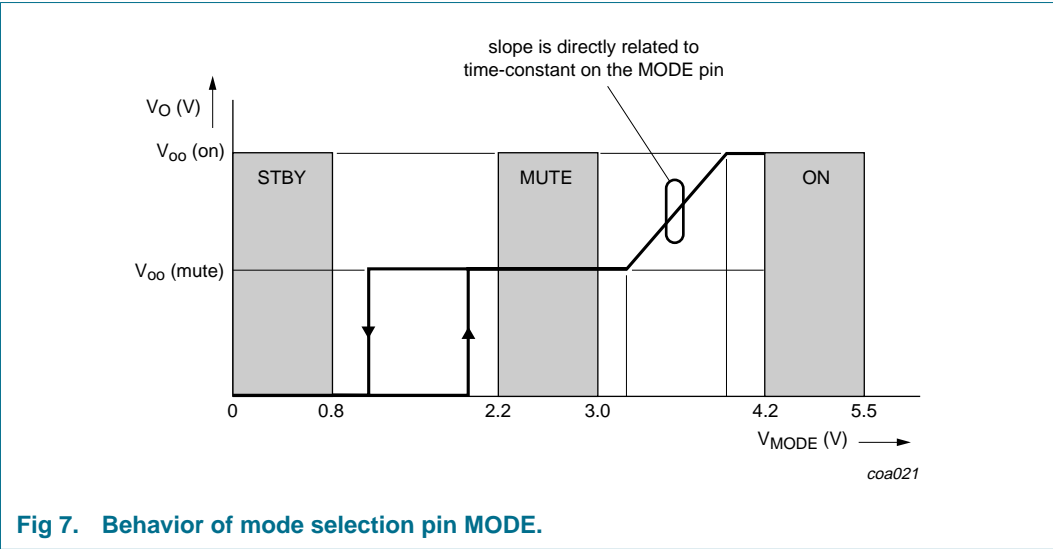

Fig 7. Behavior of mode selection pin MODE.
- [3] The transition between Standby and Mute mode contain hysteresis, while the slope of the transition between Mute and Operating mode is determined by the time-constant on the MODE pin see Figure 7.